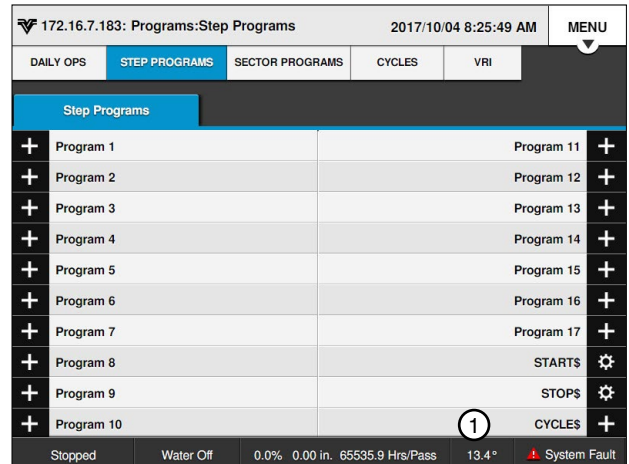

Figure 155-1 1. CYCLES\$
1. Push **Menu**, **Programs**, and **Step Programs** to view the Step Programs screen. Refer to Figure 155-1.